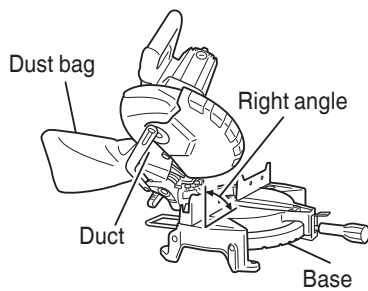

Fig. 26
- (1) When the dust bag has become full of sawdust, dust will be blown out of the dust bag when the saw blade rotates. Check the dust bag periodically and empty it before it becomes full.
- (2) During bevel and compound cutting, attach the dust bag at a right angle to the base surface as shown in Fig. 26.